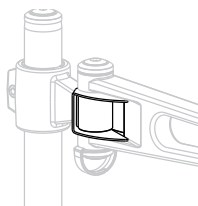

Figure 6.4 Post Stop for Bracket Mounts
- Post Stops for Bracket-Mounted standard arm styles are shipped assembled. They are positioned directly above and below the spacer in the center of the rear of the link closest to the Bracket Mount (Figure 6.4).